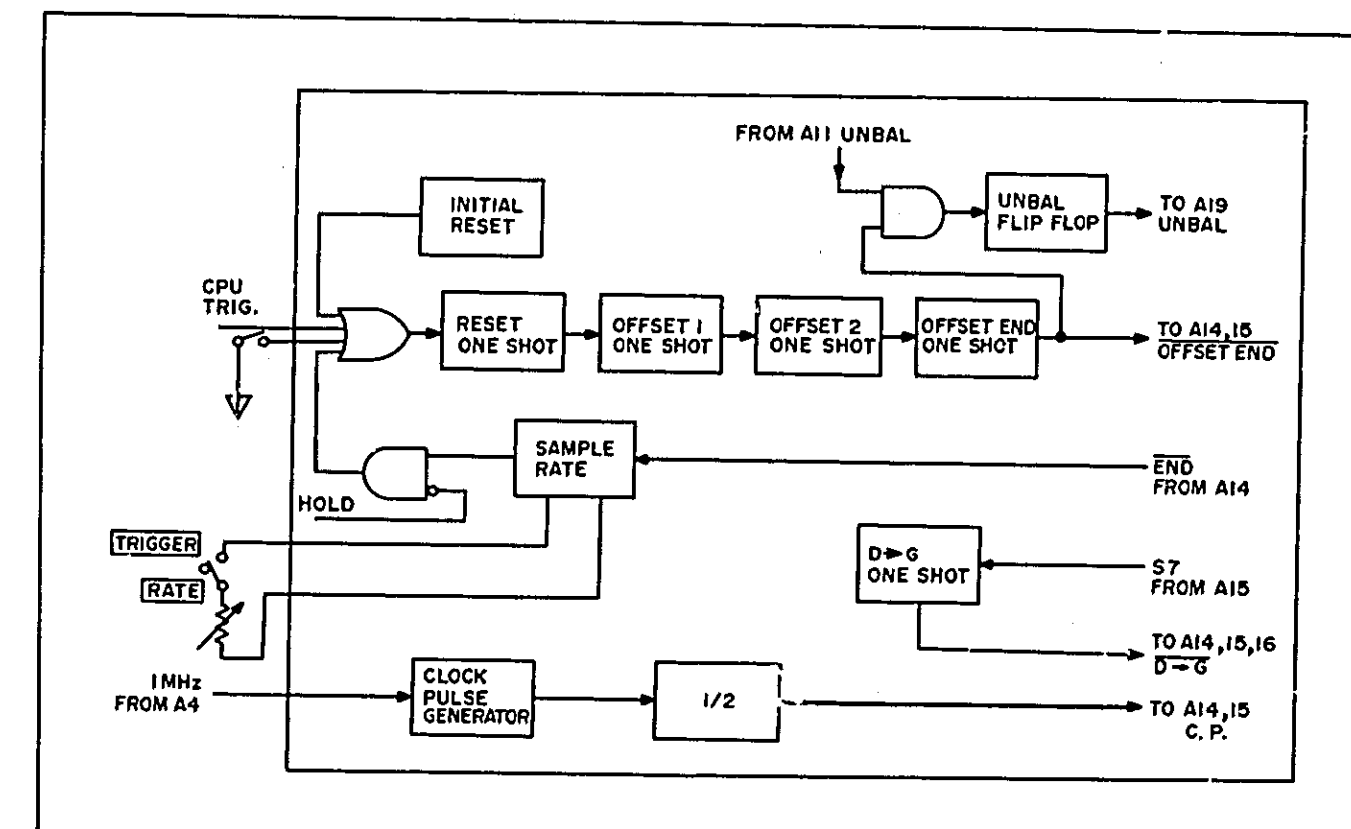

Figure 8-80. Block Diagram of A13 Board.
The Block Diagram of A13 Reset/Clock Pulse Generator is shown in Figure 8-80. The reset one shot multivibrator is triggered by initial reset one shot multivibrator output, Remote Trigger signal or CPU Trig signal and generates a reset pulse with a pulse width of 50μsec. This reset pulse is fed to A14, A15 and A17 boards and resets the 4271B to its initial conditions. An offset 1 one shot multivibrator is triggered by the reset pulse and generates a pulse of 30msec pulse width during which an offset adjustment in the Analog Section is executed. The output of offset 1 one shot triggers offset 2 one shot multivibrator, the output of which is fed to A5, A15 and A17 boards. The time interval for offset 2 is 20msec. An offset end one shot is triggered by output of offset 2 one shot. The offset end pulse (4μs wide) is fed to A14 and A16 boards as a step start command. After completion of a measuring cycle, an end pulse is transferred from A14 board and triggers the sample rate generator. At the clock pulse generator, a 1MHz signal from A4 oscillator is shaped into a square wave by a differential comparator and its frequency divided into 500kHz by a 1 bit binary counter. The 500kHz clock pulse (CP) is used throughout the 4271B.